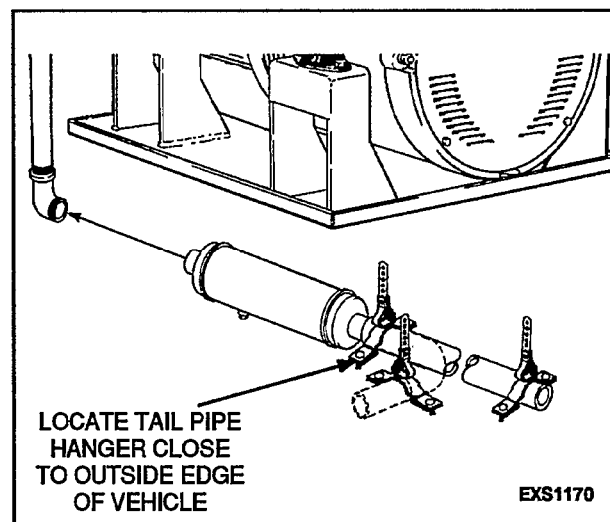

FIGURE 3-15. EXHAUST PIPE SUPPORT
3. Support the tail pipe as close to the outside of the vehicle as possible (Figure 3-15).